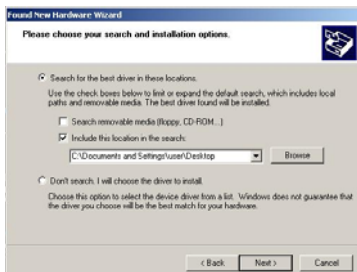

FIG. 31 Found New Hardware Wizard Installation Options dialog
6. In the next box (FIG. 31), make sure to: